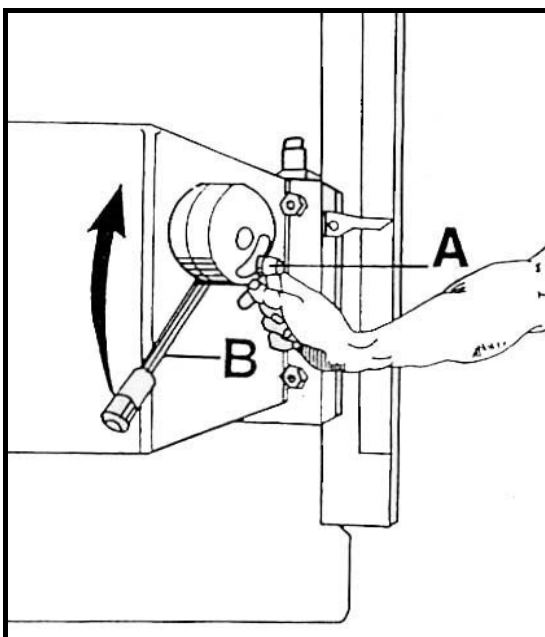
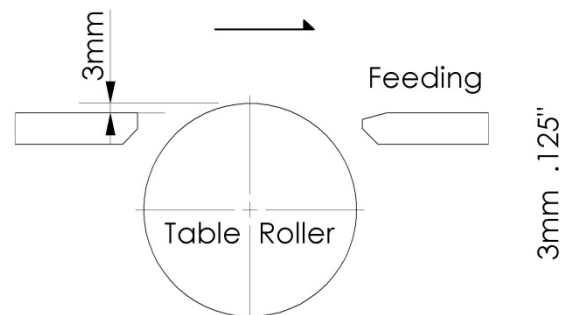

Fig. 6
Fig. 7
- A. Loosen lock handle (A) and move adjusting handle (B) up to the expected position as shown in Fig. 6
- B. Lock handle (A).
2. Table rollers can be adjusted depending on working situation. However, the Max adjustment height is .125" as shown in Fig. 7.